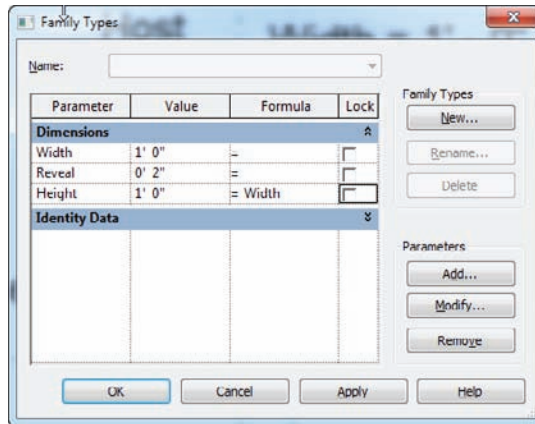

FIGURE 17.9 The Height parameter is now constrained to the Width parameter.
3. Type Width, and press the Tab key (see Figure 17.9).